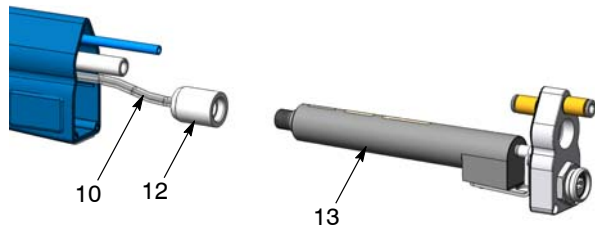

Figure 29 Disconnecting the Electrode Cable
3. See Figure 29. Unscrew the multiplier nut (12) and disconnect the electrode cable (10) from the multiplier (13).
5. Tube-Mount Guns: See Figure 29. Insert the spring end of the electrode cable (10) into the multiplier well until it bottoms out, then screw the multiplier nut (12) down tight.